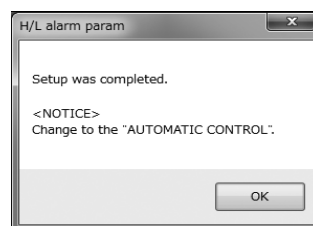

Fig.66
- ⑥ Click "OK" to change the settings to the inputted values, and then click the "OK" button in the displayed message box (Fig. 66) to complete the setting process.